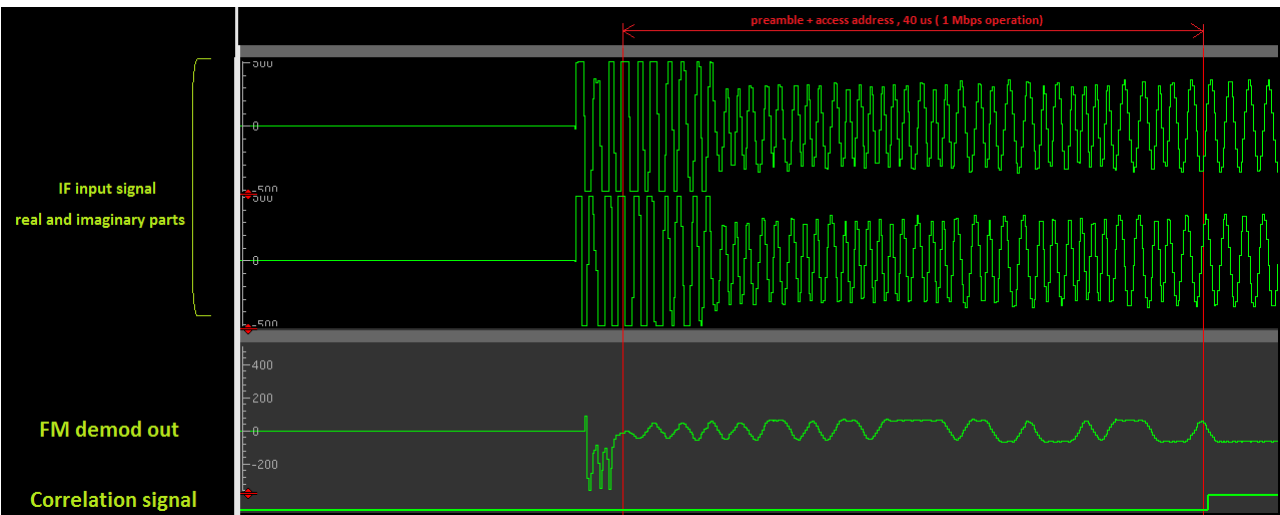

Fig 131. Burst detector
- The preamble and the access address (known and given by the link layer) are correlated to the FM-demodulated signal (see Figure 131 “Burst detector”).